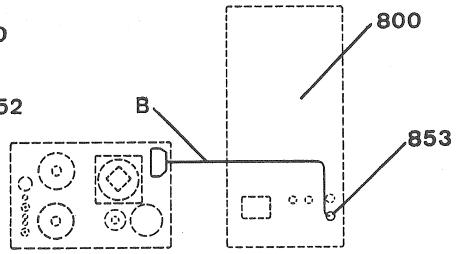

Fig 18
11. Connect the control cable (B) of the dielectric tank to its socket (853) on the generator (800) (fig. 18).